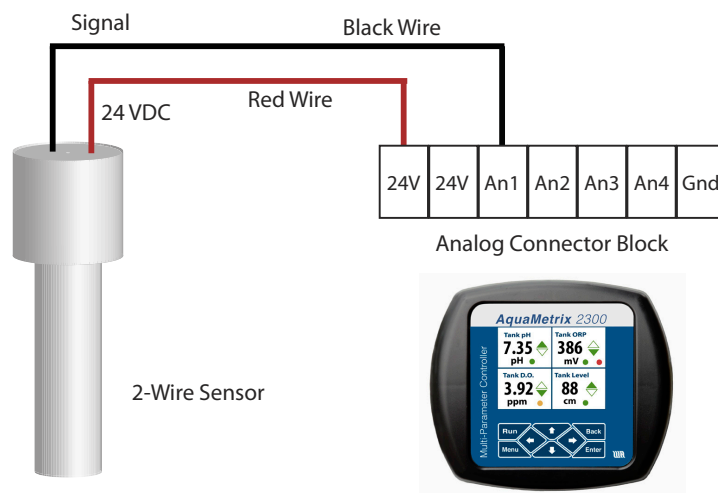

Figure 4- Electrical connections between AM-FCL and the AquaMetrix 2300. The connections will be the same for other controllers or PLC's.
Figure 4 shows the electrical connections to the AquaMetrix 2300. The same wiring diagram holds for a PLC. The Sensor will require several minutes to stabilize after power is supplied to it.
4. The sensor wiring connections are wrong. See Figure 4.